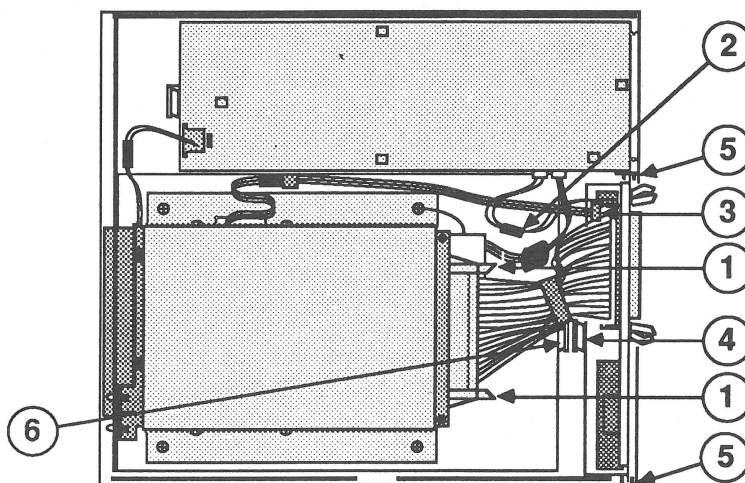

FIGURE 3
2. Open the end tabs on the SCSI device-to-case cable connector (Figure 3, #1), and disconnect it from the tape backup mechanism.
3. Disconnect the fan cable by releasing the little holding clip on the connector (Figure 3, #2).
4. Disconnect the SCSI select switch cable from the SCSI select switch (Figure 3, #3).
5. Using a flatblade screwdriver, push back the holding tab (Figure 3, #4), which secures the metal fan frame.
1. Slide the side edges of the metal fan frame into the center slots of the holding tabs on the inside of the case bottom (Figure 3, #5).
2. Push back the holding tab (Figure 3, #4) and set the fan frame in place (with fan, SCSI device-to-case cable, fan cable, and SCSI select switch attached).
3. Connect the SCSI select switch cable (Figure 3, #3). It fits only one way.
4. Connect the fan cable (see Figure 3, #2). It fits only one way.
5. Connect the SCSI device-to-case cable to the tape backup mechanism with the square tab facing down, and close the end tabs (Figure 3, #1). (If the tape backup mechanism is out of position, slide its metal frame back under the holding tab—Figure 3, #6.)